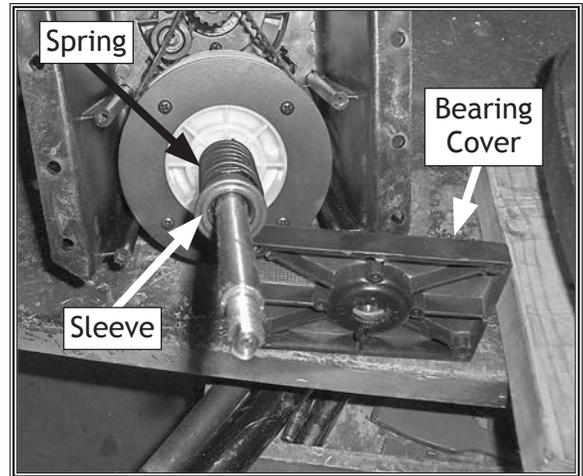

Figure 20. Bearing cover removed.
8. Remove four M4 x 20 tap screws (#41) that secure bearing cover (#42), then remove cover (see **Figure 20**).